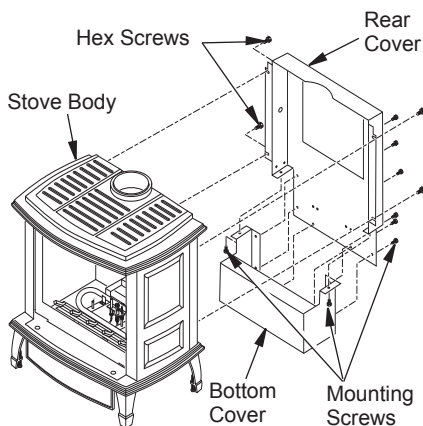

Figure 16 - Removing Rear Cover and Bottom Cover from Stove Body
1. Remove 4 hex screws securing rear cover to back of stove body (see Figure 16).
2. Separate bottom cover from rear cover by loosening the 8 mounting screws (see Figure 16).
14. Reattach bottom cover to rear cover with 8 screws (see Figure 16, page 9). Make sure that you don't pinch any wires during reassembly. Route power cord through plastic bushing in bottom of rear cover.